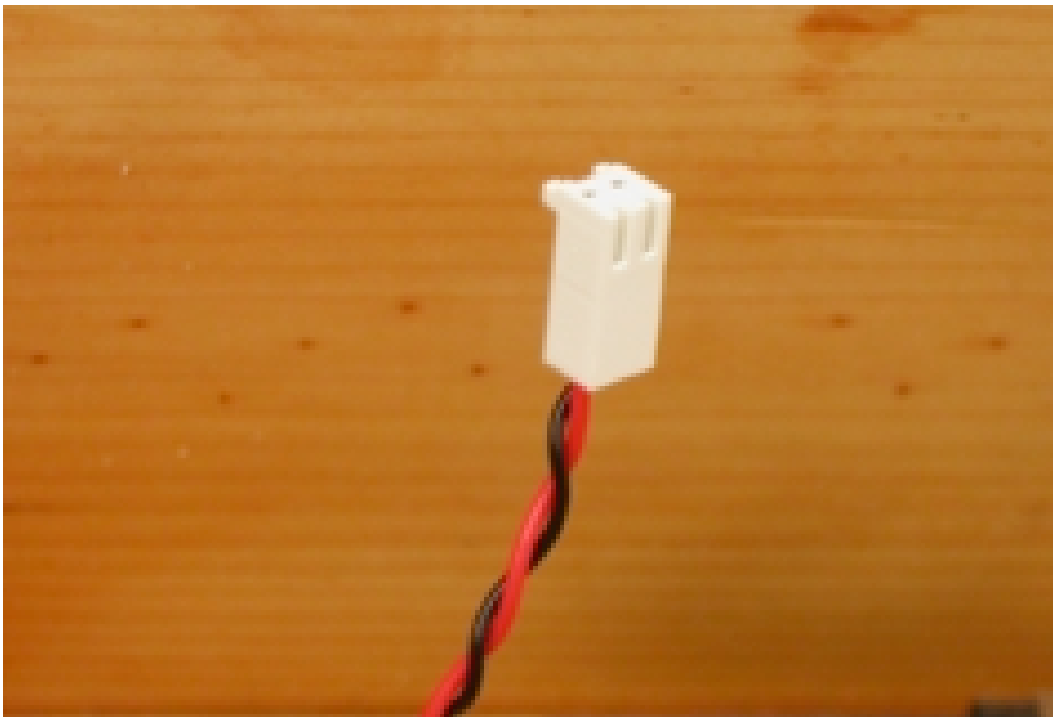

Figure 27: Power wires attached to 2-pin header connector.
6. **Insert crimp pins into 2-pin header connector as far as they go.** You may feel a click; they should not pull out (Figure 27).